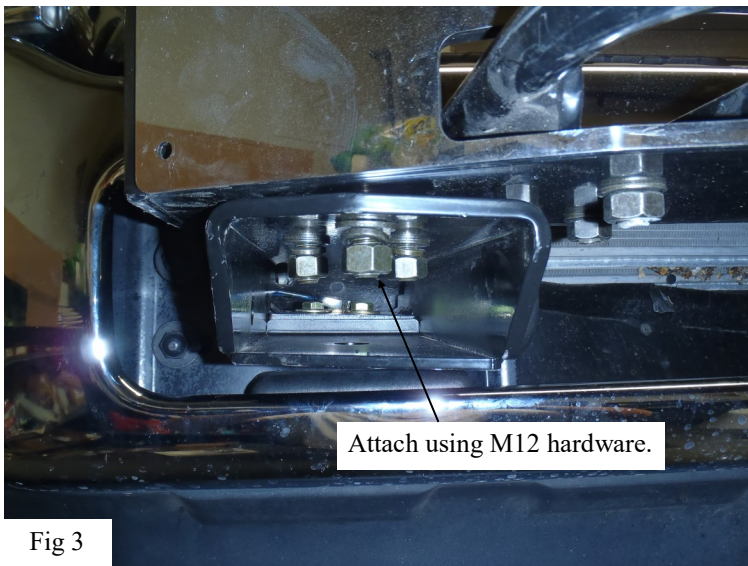

Fig 3
6. Take the winch tray and set it on top of the installed mounting brackets, attach using (6) M12 hex head bolts, (12) M12 flat washers, (6) M12 lock washers, and (6) M12 hex nuts. Do not fully tighten at this time Fig 3.